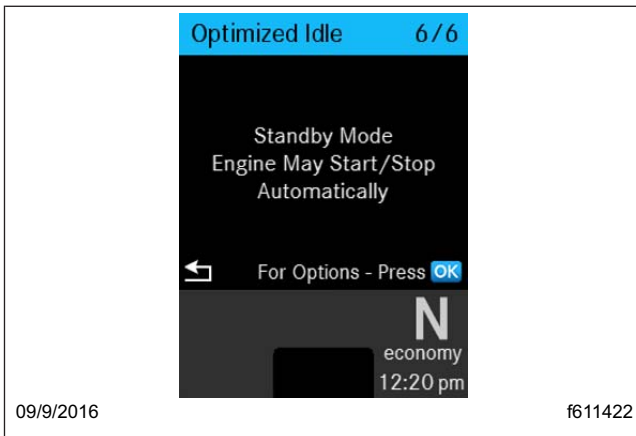

Fig. 11.4, Optimized Idle State Screen
7. Select OK to enable Optimized Idle, and, if desired, turn on the interior comfort mode (sleeper cabs only). The current Optimized Idle state is displayed. See Fig. 11.4.